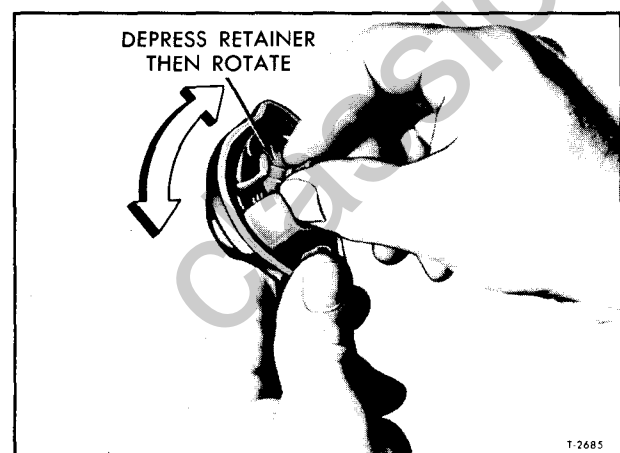

Figure 17—Disengaging Handle Spring Retainer
2. Remove the button shaft retainer by first depressing, then rotating retainer as shown in figure 17. Remove shaft spring and button assembly with O-ring seal from handle.
2. Locate spring over button shaft, then install spring retainer (fig. 17).